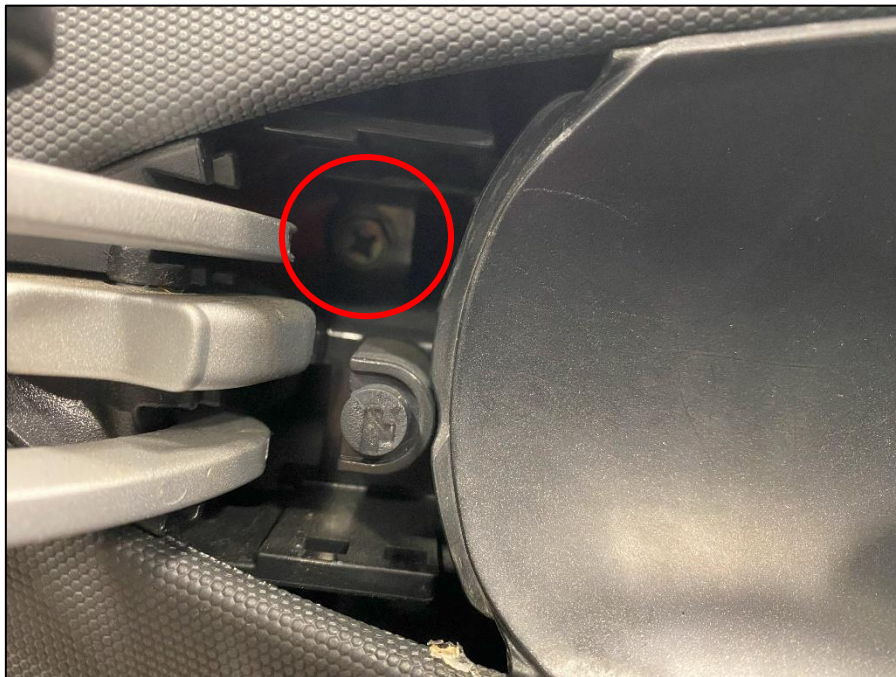

Figure 2
4. Remove the (1) one 10mm Bolt hidden behind the Trim Piece that was just removed. *Figure 2.*